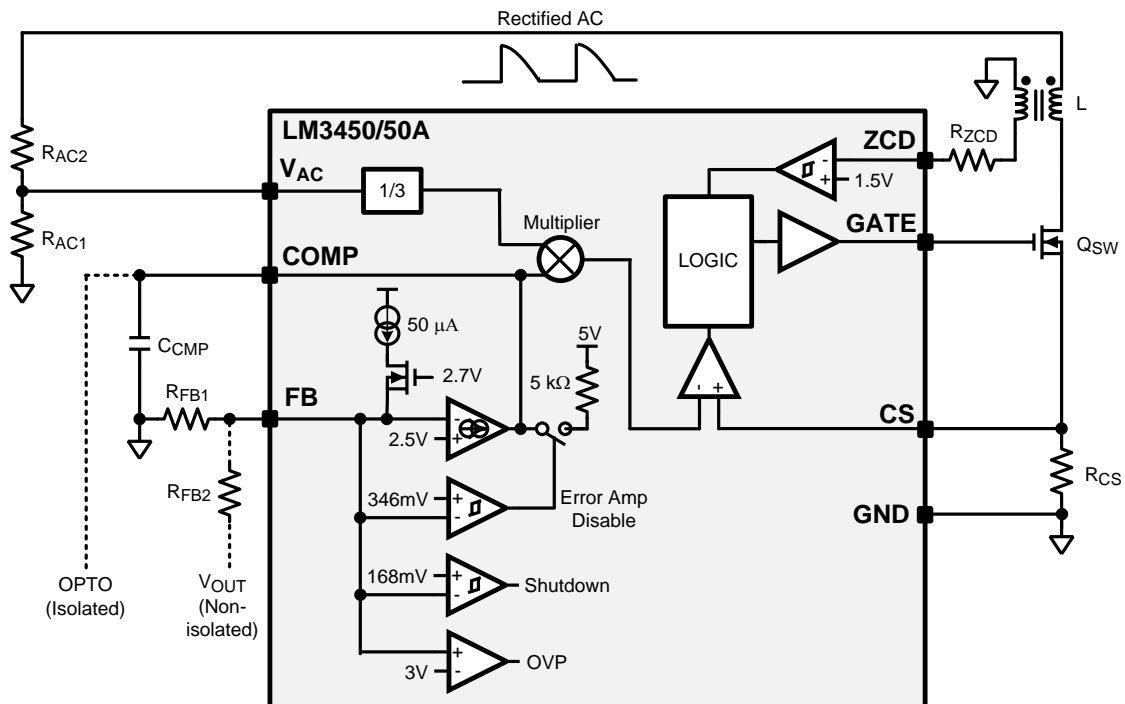
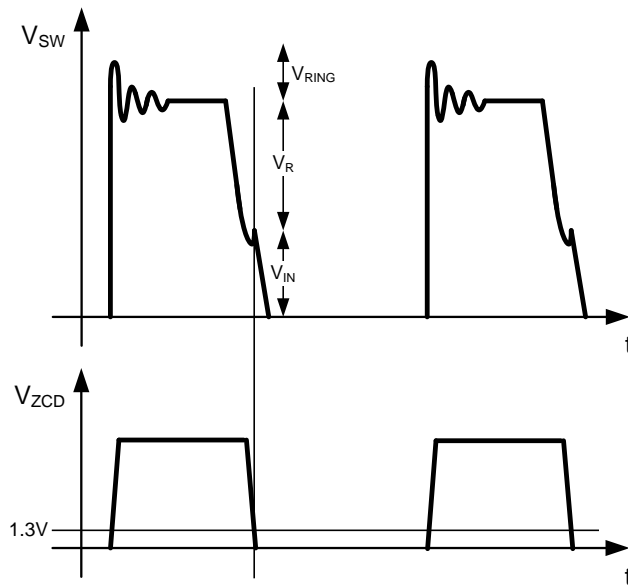

Figure 21. PFC Control Circuit
Figure 22. ZCD Waveforms for Flyback Design
The LM3450/50A uses CRM control to regulate the output voltage and provide power factor correction. In a non-isolated boost topology, an external voltage divider ( $R_{FB1}$ ,  $R_{FB2}$ ) is used to sense the output voltage, as shown in Figure 21. The divider is connected to the inverting input (FB) of the internal error amplifier. The LM3450/50A regulates the feedback voltage ( $V_{FB}$ ) to 2.5V in a closed loop fashion.
For an isolated flyback topology, where the error amplifier is on the secondary, the LM3450/50A internal error amplifier can be bypassed using a single 5.11k $\Omega$  resistor ( $R_{FB1}$ ) from FB to GND. This engages an internal 5k $\Omega$  pull-up resistor at COMP. COMP can then be connected directly to the optical isolation as shown in Figure 21.
ZCD is implemented with a 100kΩ resistor from the ZCD pin to a coupled winding on the transformer or inductor as shown in Figure 21. This winding is also used to bootstrap  $V_{CC}$  after start-up. When  $Q_{SW}$  turns off, the voltage at the ZCD pin ( $V_{ZCD}$ ) increases as energy is transferred through the auxiliary winding. The circuit arms when  $V_{ZCD}$  exceeds 1.5V. Then, when the energy is fully transferred,  $V_{ZCD}$  decreases towards zero. When  $V_{ZCD}$  falls below 1.3V, the transformer is assumed to be demagnetized, the circuit disarms, and  $Q_{SW}$  is turned back on as shown in Figure 22. The ZCD pin voltage will remain low until  $Q_{SW}$  is turned off via peak detection and the cycle repeats.
The LM3450/50A internal error amplifier is used for non-isolated designs (boost) where the output voltage can be directly sensed, via a resistor divider, at the FB pin. The FB pin is the inverting input of the trans-conductance amplifier which is regulated to 2.5V. The COMP pin is the output of the amplifier and external compensation is placed from COMP to GND in the form of a single capacitor ( $C_{COMP}$ ) as shown in Figure 21, a series resistor and capacitor, or both. The output of the amplifier sources or sinks current as necessary to force the inputs of the amplifier to be equal. The compensation method depends upon the transient performance desired and requires a loop gain analysis. This analysis can be somewhat complex and cumbersome. A detailed analysis can be found Application Notes AN-2098 (literature number SNVA463) and/or AN-2150 (literature number SNVA485).